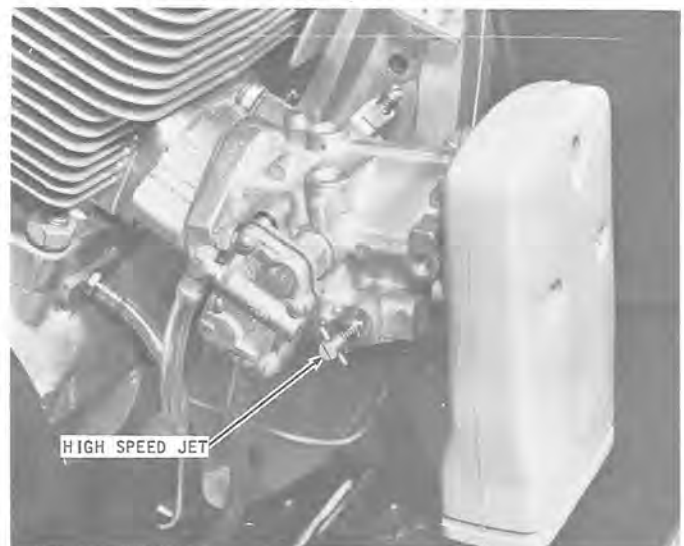
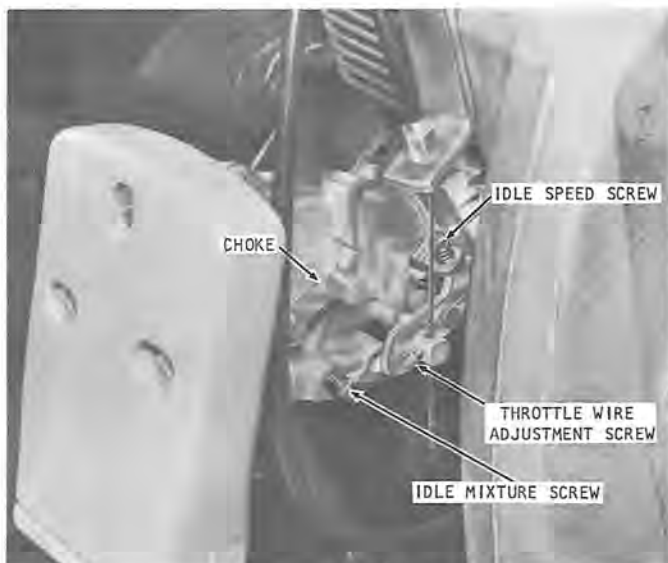

Figure 18
Figure 19
When engine is warm, place Ski-Daddler on the kickstand and slowly accelerate to high speed. Turn high-speed adjustment needle in to the point where the engine runs the fastest and smoothest, then open needle (turn out 1/4 turn). Turn in the idle mixture screw all the way (DO NOT FORCE) and then open one full turn. **IMPORTANT: MAKE NO OTHER ADJUSTMENTS TO IDLE MIXTURE SCREW.** This adjustment controls the mixture at idling speeds. A lean idle mixture will cause poor acceleration. Adjust the idle speed screw shown in figure 19. Keep idle speed slower than clutch engaging speed (approximately 1750 to 2000 RPM)
Figure 19 also shows a throttle wire adjustment collar screw. Remove carburetor air cleaner and depress the throttle control. If this does not open the throttle plate completely, loosen throttle wire adjustment screw and readjust to open throttle.
IT IS IMPORTANT NOT TO FORCE ADJUSTMENTS INTO SEATS. The carburetor used is a Tillotson Model HD Carburetor. For best results the engine should be warm when the final carburetor adjustment is made. Figure 18 shows the left side of the carburetor and figure 19 shows the right side.
2. **STARTING A WARM ENGINE** - Start engine with choke open. The choke is shown in figure 18.